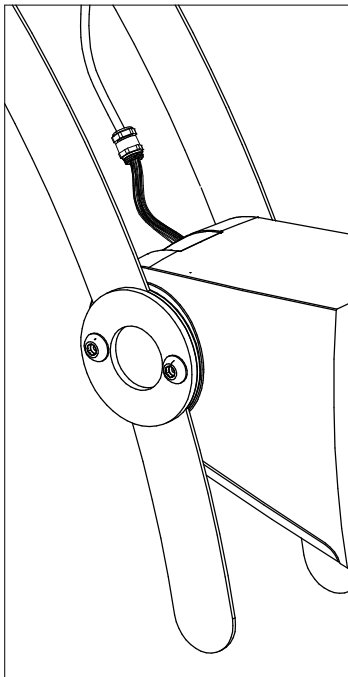
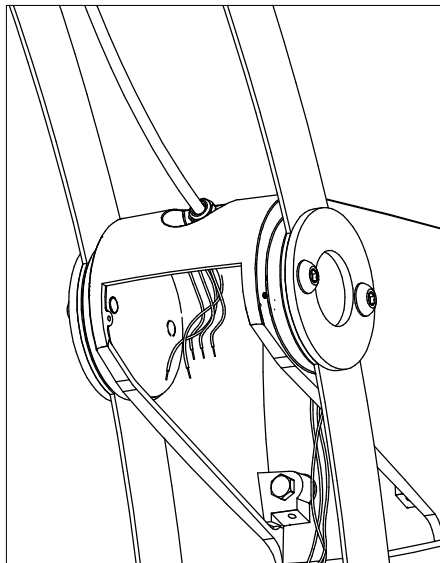

FIG. 5-4
FIG. 5-4B
4. INSERT THE OTHER END OF THE CONDUIT ASSY-5GA STEEL BRAIDED STRANDED WIRE BUNDLE INTO THE BALLAST COMPARTMENT OPENING. SHOULD USE THE 17in LONG STRIPPED CORD SIDE. (FIG. 5-4/FIG. 5-4B)